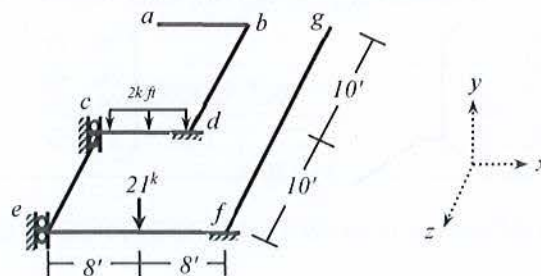

Fig.4
- Use stiffness method to calculate displacements of joint *c* and *e* of the grid system loaded as shown in Fig.4